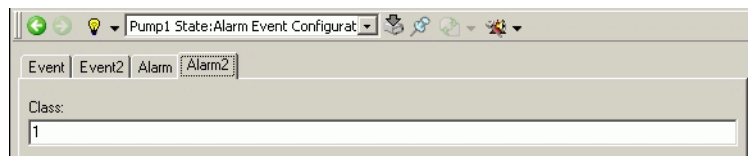

Figure 31. Alarm2 Tab
6. The Alarm2 tab, Figure 31, is used to configure class. Classes are groups of alarms without any ranking of the groups. The range is 1 to 9999.